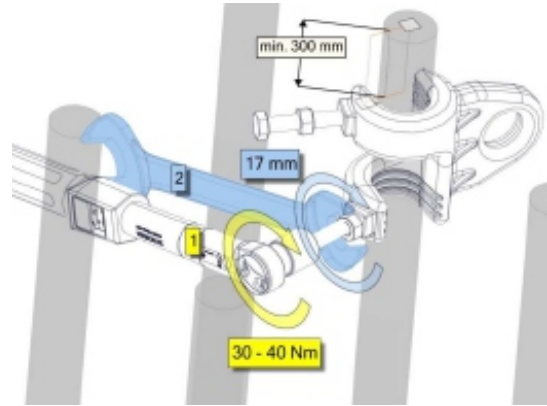

Figure 6. Installation of anchor point on bar
While holding anchor point AT187 tighten both mounting screws (Figure 6) using torque wrench (1) to 30–40 Nm. Then tighten lock nut to prevent the screw from unscrewing with use of flat wrench 17mm (2).